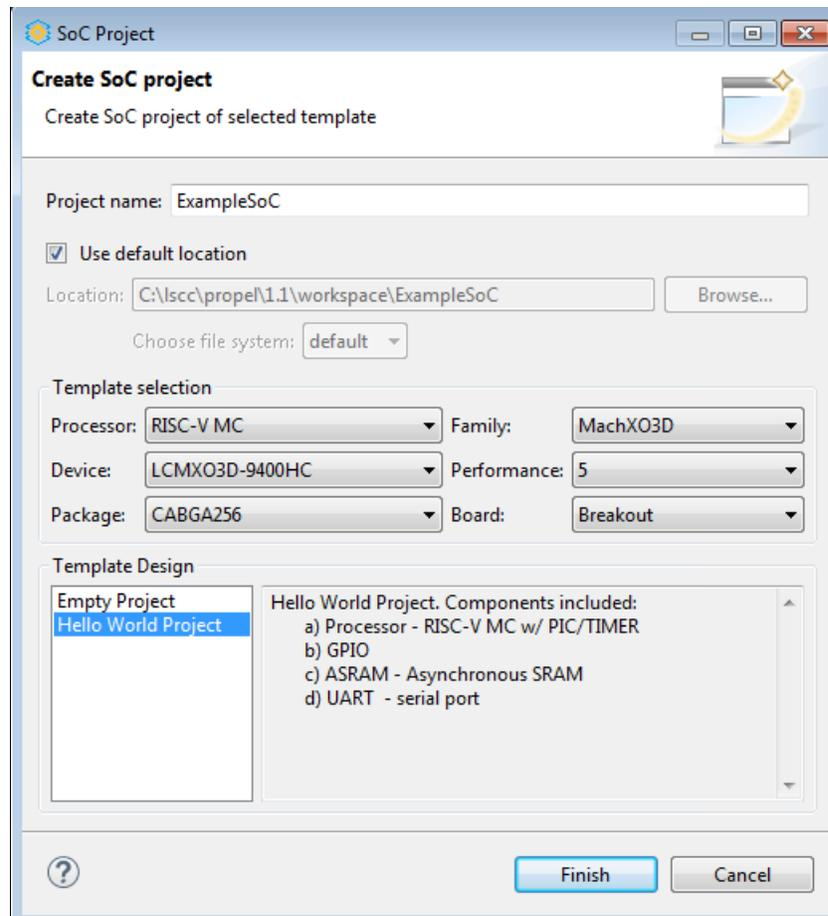

Figure 3.7. Create SoC Project Wizard
1. In Lattice Propel, choose **File > New >**  **Lattice SoC Design Project**. The **Create SoC project** wizard opens (Figure 3.7).